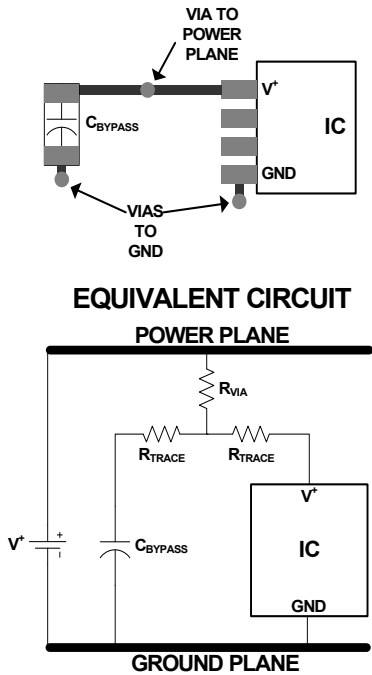
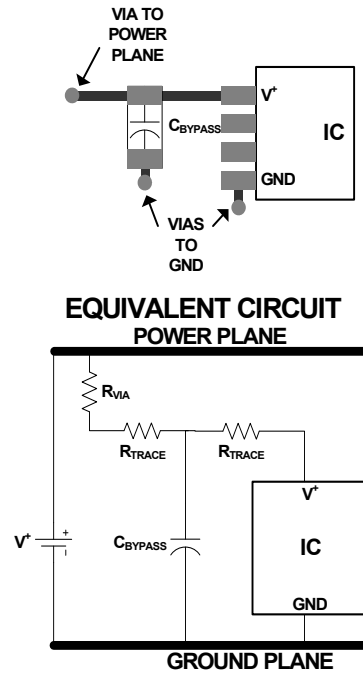

FIGURE 12. SUB-OPTIMAL BYPASS CAPACITOR LAYOUT
FIGURE 13. OPTIMAL (“T”) BYPASS CAPACITOR LAYOUT
- Ideally each supply should be bypassed to ground with a 0.1μF capacitor. Minimize trace length and vias to minimize inductance and maximize noise rejection. Figure 12 demonstrates a common but non-ideal PCB layout and its equivalent circuit. The additional trace resistance between the bypass capacitor and the power supply/IC reduces its effectiveness. Figure 13 demonstrates a better layout. In this case there is still series trace resistance (it is impossible to completely eliminate it), but now it is being put to good use, as part of a “T” filter, attenuating supply noise before it gets to the IC, and reducing the amount of IC-generated noise that gets injected into the supply. Follow the good supply bypassing rules shown in Figure 13 to the extent possible.